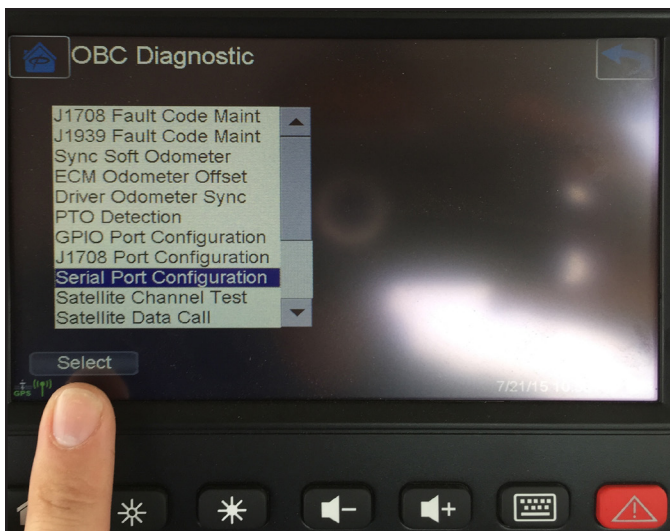

Figure 8 – General Port Configuration
8. From the displayed drop-down menu, *highlight Serial Port Configuration and press the Select icon on the lower left corner of the screen. See Figure 8.*